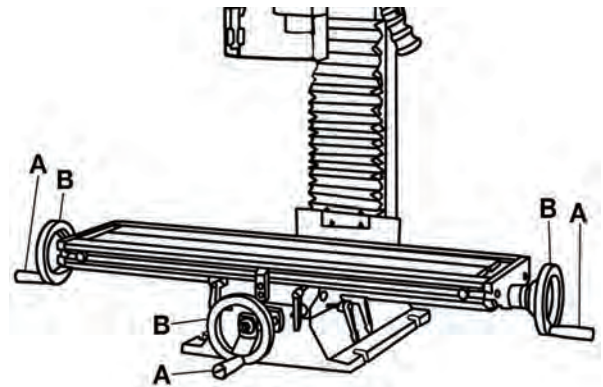

FIGURE 4
- 2) Install the three small handwheel handles (A) Fig.4 onto the table travel handwheels (B) using a flat head screwdriver.